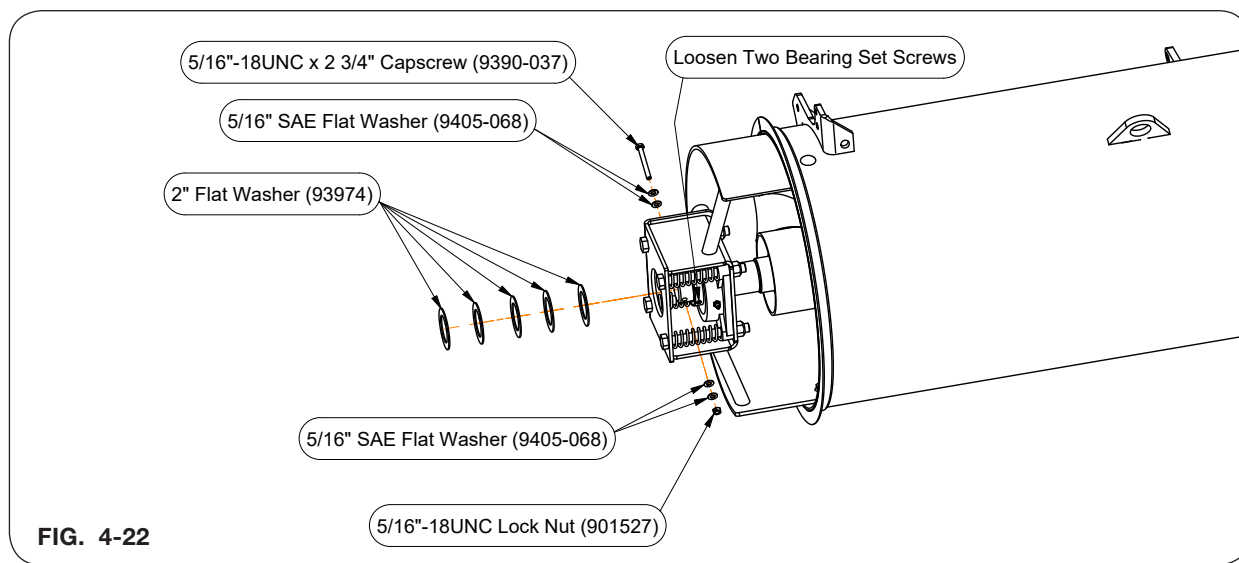

FIG. 4-22
12. Make sure the 4 bolt flange bearing is sitting tight against the mounting plate and then tighten the two bearing set screws. Attach the upper auger with the 5/16"-18UNC x 2 3/4" capscREW (9390-037), four 5/16" SAE flat washers (9405-068), 5/16"-18UNC lock nut (901527), and as many 2" flat washers (93974) as required to fill the gap between the bearing and the cross bolt. (FIG. 4-22)